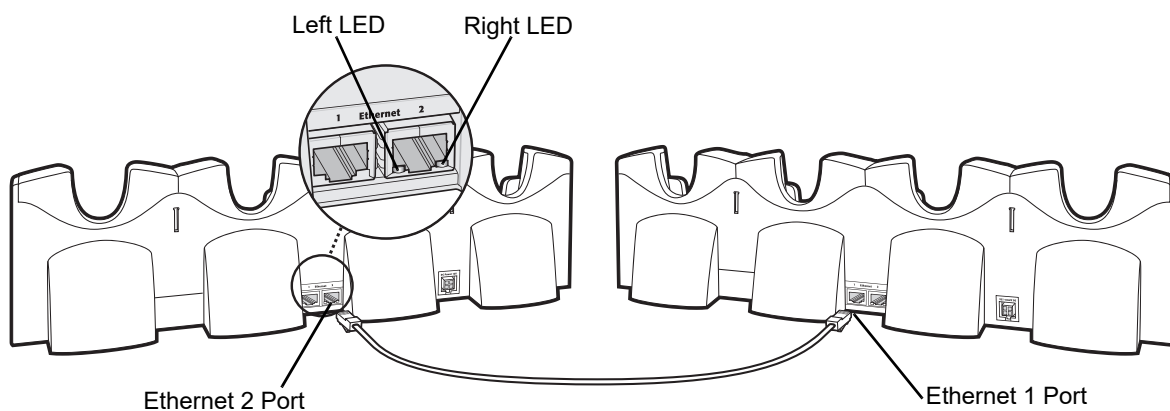

Figure 2-9 Daisychaining Four Slot Ethernet Cradles
3. On the first Four Slot Ethernet cradle, connect a second Ethernet cable to the Ethernet 2 port. See Figure 2-9.